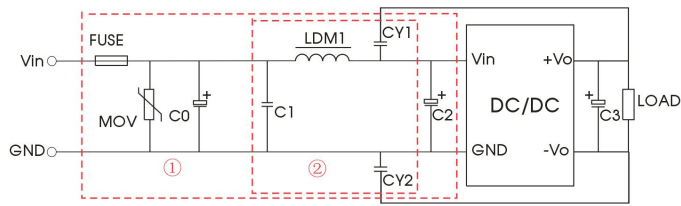

Fig. 4
12VDC nominal input	CISPR32/EN55032 CLASS A (without extra components.)/ CLASS B (see Fig.4-② for recommended circuit)
12VDC nominal input	CISPR32/EN55032 CLASS A(without extra components.)/CLASS B(see Fig.4-② for recommended circuit)
Notes: For EMC tests we use Part ① in Fig. 4 for immunity and part ② for emissions test. Selecting based on needs.